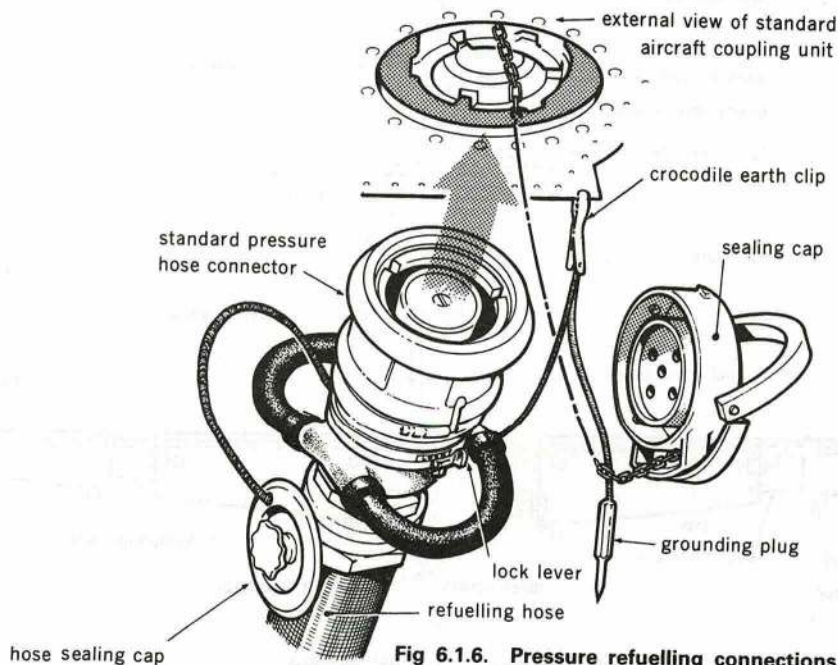

Fig 6.1.6. Pressure refuelling connections
18. **Definition.** The term pressure refuelled system is used to differentiate between the open orifice, gravity filled, fuel system which is open vented and an all enclosed fuel system which is normally filled through a special connector (Fig 6.1.6) by fuel under pressure (although provision may be made for emergency gravity filling). In these systems, pressure air is fed to some of the fuel tanks above the fuel when the engine is running. Fuel systems which are designed for pressure refuelling (at a pump pressure 3.4 bar (50 psi)) are sometimes called pressurized fuel systems because air pressure is used for fuel transfer and fuel feed purposes. The air pressure above the fuel prevents the fuel from boiling at altitude and the number of fuel booster pumps can be reduced because the pressure air is also used for transferring fuel to the last tank(s) in the system where fuel booster pumps are fitted. This does not mean that the fuel tanks and fuel lines are constantly subjected to high pressures. Depending upon aircraft type, the air pressure is normally about 0.4 bar (6 psi), and the system is designed to protect the fuel tanks from excessive pressure above this value